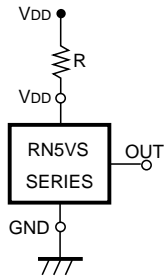

FIG. 9
1. When RN5VS××C (CMOS Output) is used in FIG. 9, this IC may oscillate by the through-type current at the detection when impedance is connected between Power Source VDD and RN5VS VDD Pin. When RN5VS××A (Nch Open Drain Output) is used in FIG. 9, and R becomes excessively large, Detector Threshold may be varied because of the voltage drop of the supply current in the IC itself.